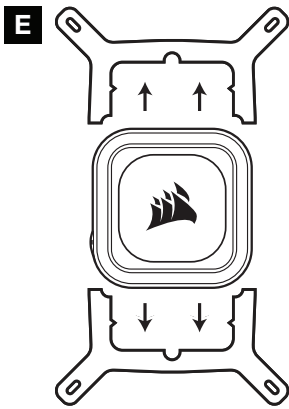

Figure 1
- > Remove the integrated Intel mounting bracket (Figure 1).